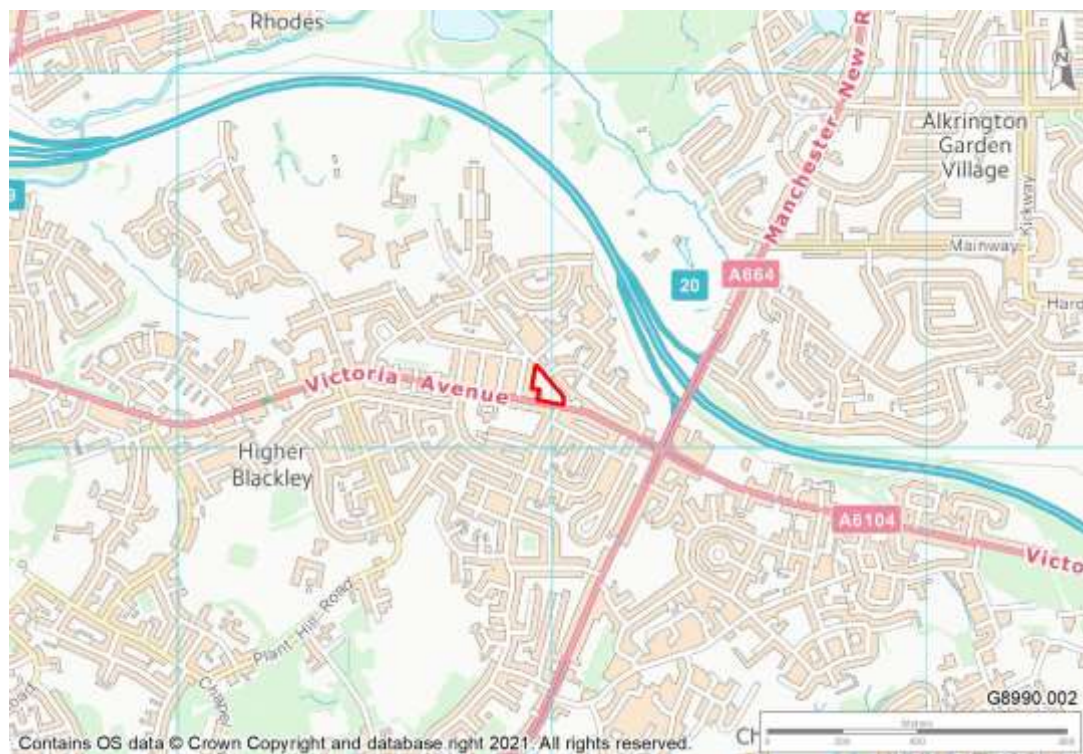

Figure 1: Site location in wider landscape
- 1.7 The site is located at the junction between Chain Road and Victoria Avenue in Blackley and is approximately 0.5 ha in size. The site is centred on grid reference SD 85972 04169. The site context is shown below in Figure 1.